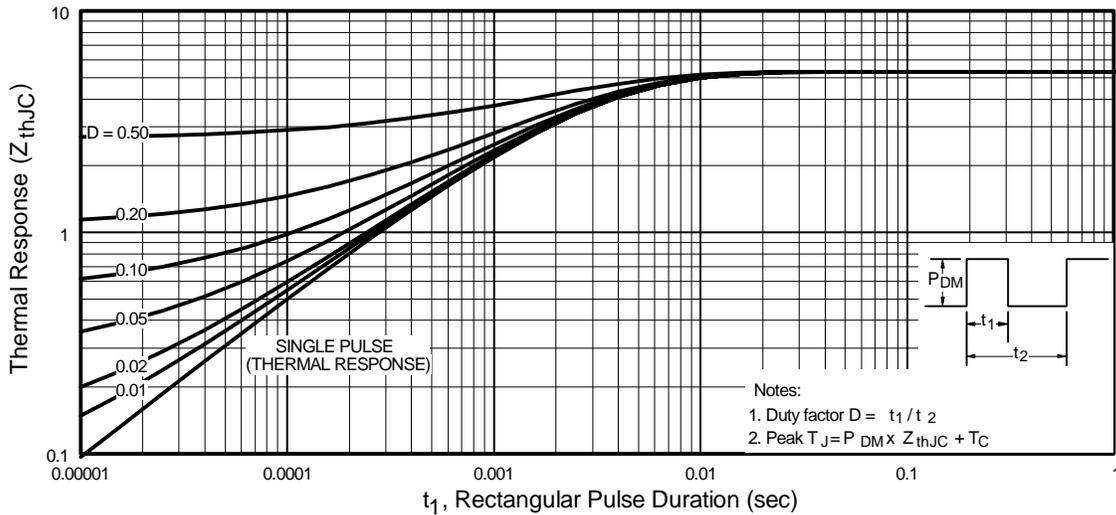

Fig 11. Maximum Effective Transient Thermal Impedance, Junction-to-Case
① Repetitive rating; pulse width limited by max. junction temperature. (See fig. 11)
② Starting $T_J = 25^\circ\text{C}$, $L = 1.96\text{mH}$